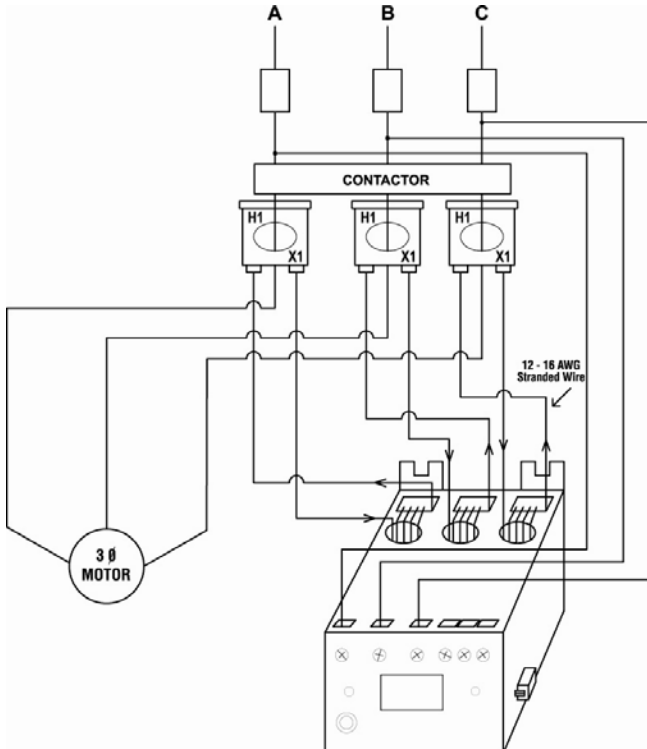

Figure 3: Typical Wiring Using External CTs1
- c) For amperages greater than 90 amps, external CTs (current transformers) are required. SymCom recommends using CTs with terminal connections for easier installation. All CT secondaries must make five passes through the round holes on the MotorSaver®Plus. See Figure 3 for a typical wiring diagram using external CTs.